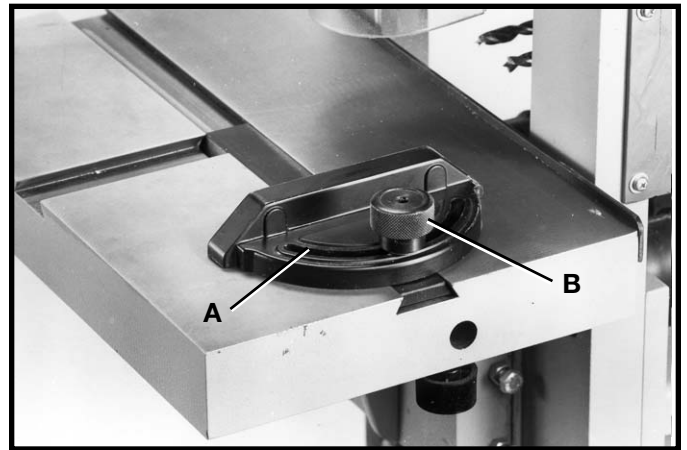

Fig. 30
The miter gage (A) Fig. 30, can be installed at three positions on the table, left, right or center, depending on the drilling operation.
1. To adjust the position and angle of the miter gage (A) Fig. 30, loosen lock knob (B).